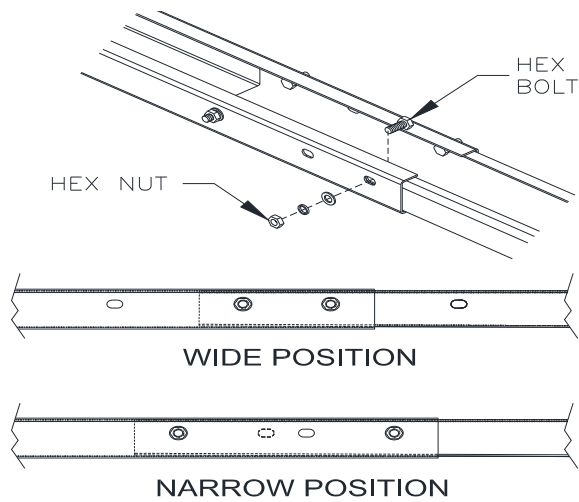

Fig 6 – Overhead
- 13) Assemble two Overhead pieces using (6 sets) M10 x 20 bolt, nut, flat washer, and lock washer as shown in Fig 6. Hand-tighten bolts to allow adjustment if needed. Use Base Width (D) Dimension to determine proper holes to use.